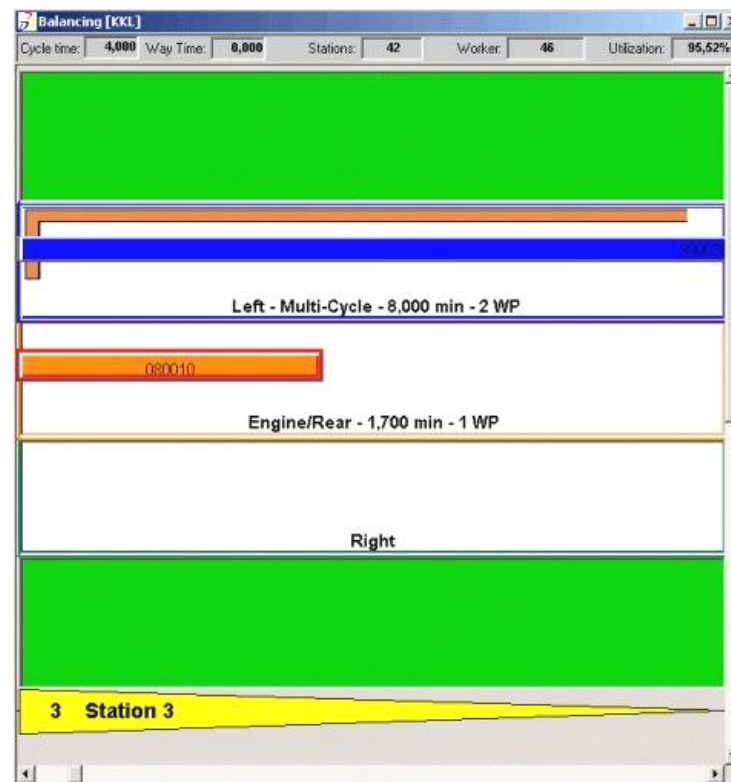
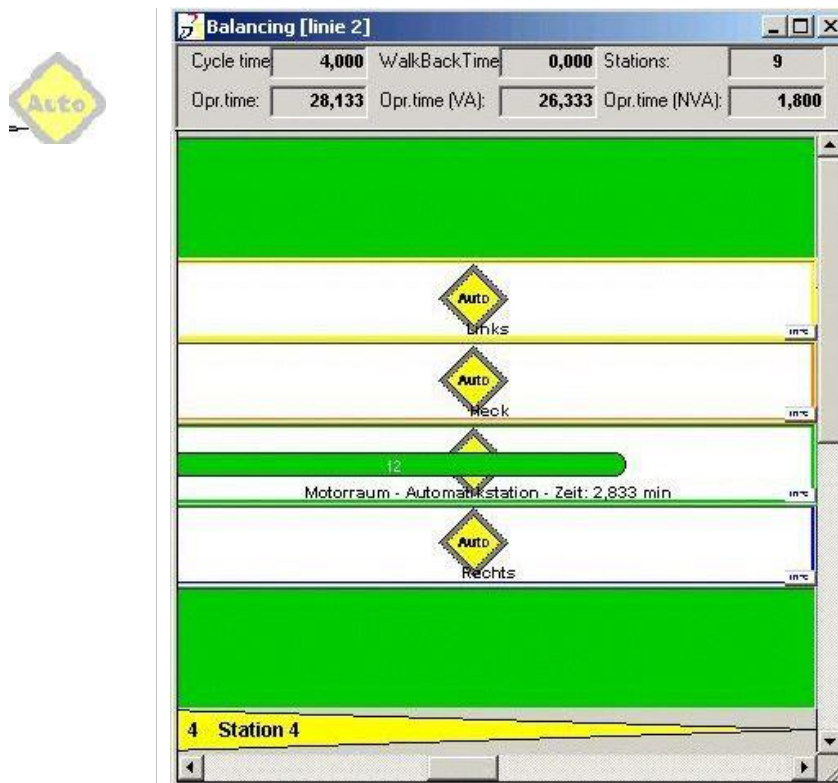

Figure 52: Example – Station Balancing Conveyor Display
Figure 53: Example – Automatic Station Display
All calculated stations, work positions, and assigned processes will be displayed in the Balancing view. Use this view to perform manual balancing. This means that you can assign processes to new work positions using drag and drop in this view. (Please refer to the Working with Automatic Line Balancing). There are two different kinds of stations: manual stations (Please refer to the Figure 52) and automatic stations (Please refer to the Figure 53). The Balancing view can be displayed either with or without the Material Area. Please refer to the Balancing Work Areas.
- The processes are displayed by the process number in the Balancing view. Processes can either be displayed by a rectangle (against a grey background as shown in the example) or by a rhomb. The display size depends on the duration of each process. The longer the process duration, the greater is the size of the process display. Processes with a station linkage are displayed by a rhomb. The process station linkage may refer to one or several stations. *Please refer to the Displaying Processes and Figure 52.*
Thus, the first station at conveyor 1 would be numbered **station number 1** whereas the first station at conveyor 2, according to the stations calculated for conveyor 1, would be numbered station number 10. As a conclusion, the last station of conveyor 1 would be numbered station number 9. Please refer to the Figure 53 and Figure 58.